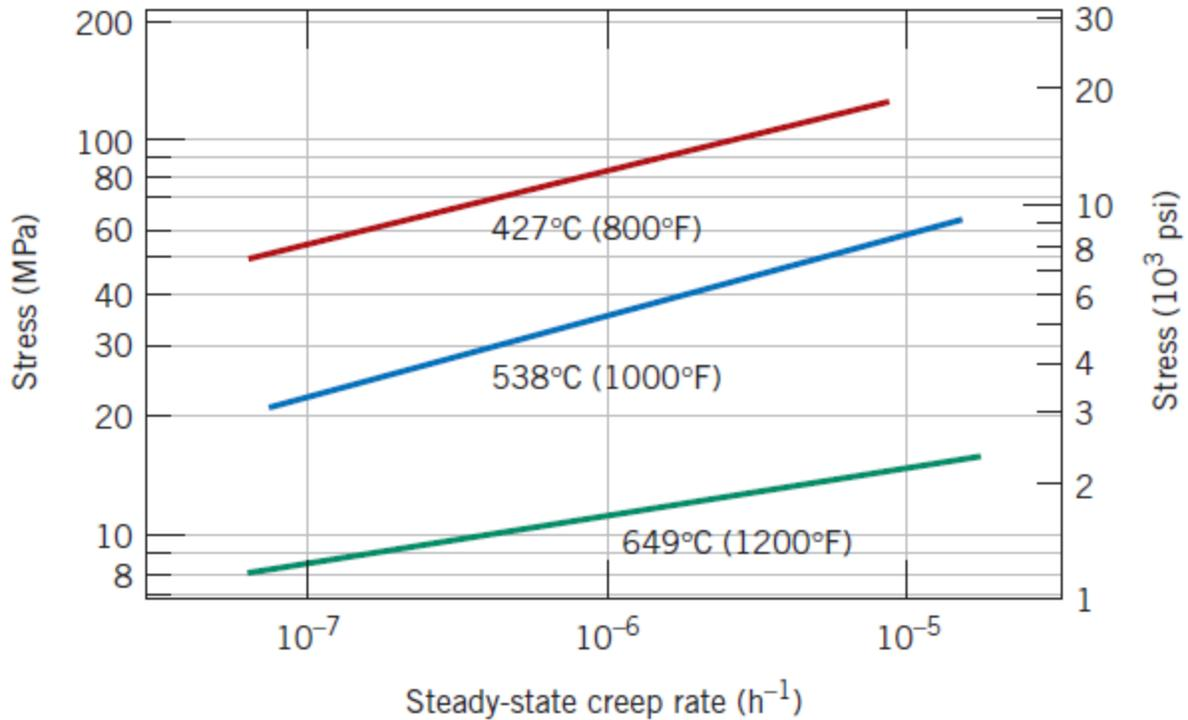

Fig.1 Stress (logarithmic scale) versus rupture lifetime (logarithmic scale) for a low carbon–nickel alloy at three temperatures
2. For a cylindrical low carbon–nickel alloy specimen (Fig. 1) originally 19 mm (0.75 in.) in diameter and 635 mm (25 in.) long, what tensile load is necessary to produce a total elongation of 6.44 mm (0.25 in.) after 5000 h at 538°C? Assume that the sum of instantaneous and primary creep elongations is 1.8 mm (0.07 in.).